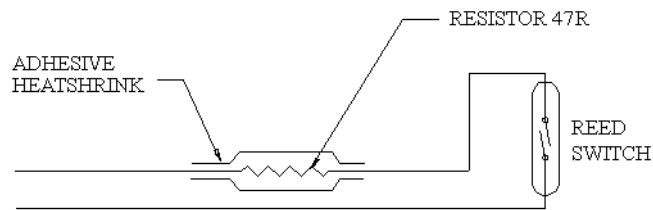

Figure 72 **Wiring Diagram of QMR102**
4. The cable length can be shortened or lengthened as required. If the cable is lengthened, please ensure a good quality environmental connector, or a heatshrink joint (see Figure 72 on page 84). Extension cables used must be of a similar specification.